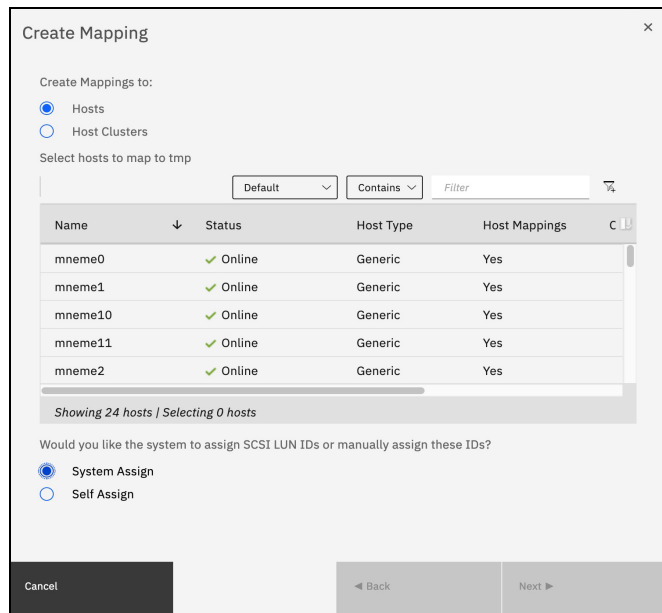

Figure 4-12 The Create Mapping page
- Verify the volume, and then click **Map Volumes**. See Figure 4-12 on page 140.